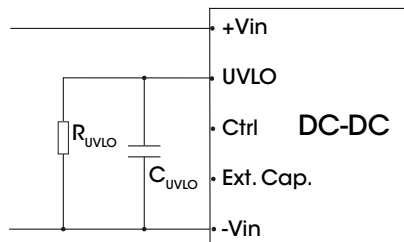

Figure 14. Recommended circuit for undervoltage-lockout adjustment
3. The UVLO pin can adjust the point of input under-voltage protection by the external resistance R_{UVLO}, for the value of R_{UVLO}, please refer to Fig. 14. If the pin is open circuit, the point of input under-voltage protection is 11 V.
3. The resistance R_{UVLO} sets the undervoltage protection point, for the value of R_{UVLO} , please refer to Fig. 14.